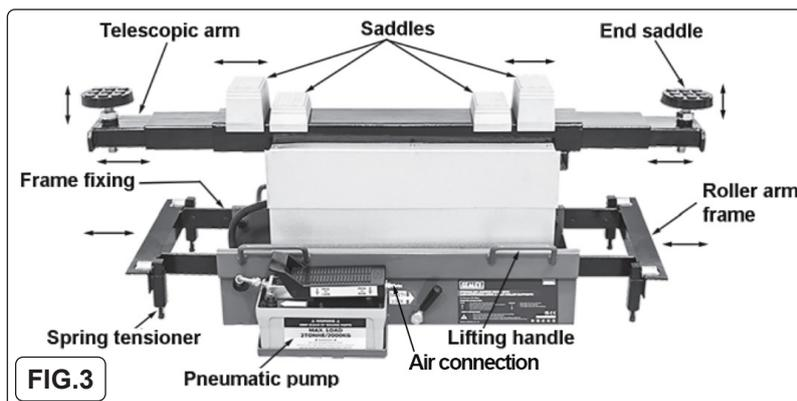

FIG.3
- 4.2.1. Lift the jacking beam into place by using the lifting handles (fig.3).
- 4.2.2. Loosen the roller arm frame fixings, on both sides (fig.3), and extend the roller arm frames (fig.3) outwards, equally each side, to the correct width to suit the ramp or pit runners. Re-tighten fixings.
- 4.2.3. Adjust the spring tensioner (fig.3) on all four rollers so the rollers will just support the weight of the jacking beam on it's own and allow the jacking beam to travel freely along the ramp or pit.
- 4.2.4. Attach the airline hose to the air connection on the pneumatic pump (fig.3).
- 4.3.2. Loosen the roller arm frame fixings (fig.3), both sides, and withdraw the roller arm frames (fig.3) from the jacking beam main frame.
- 5.2.1. Raise the ramp or pit inspection runners to the desired height (fig.3).
- 5.2.4. Determine which saddle pair combinations are best suitable for the application, saddles or adjustable end saddles (fig.3).
NOTE: The end saddles can be adjusted, up or down to suit (fig.3).
- 5.2.5. Adjust the telescopic arms (fig.3) to line up the saddles (fig.3) with the jacking points of the vehicle (fig.7).
- 5.3.2. With the assistance of another person remove the jacking beam, using the lifting handles (fig.3), from the pit or inspection runners and store in a safe, clean, dry location.